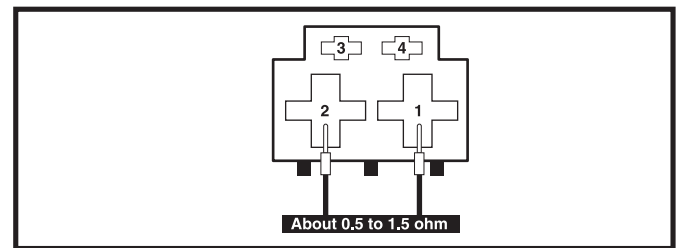
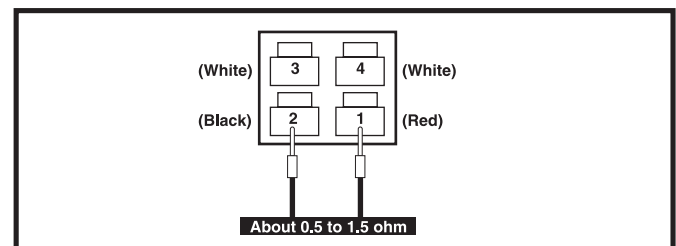
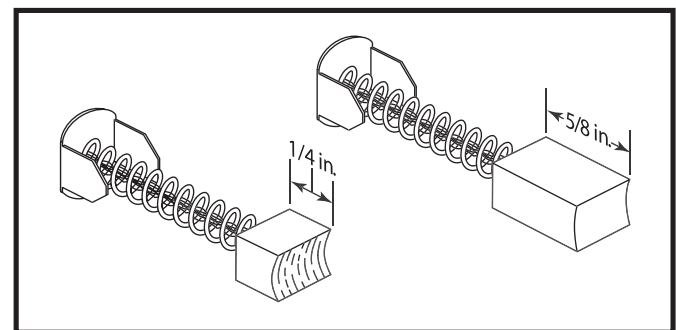

Figure 39. Connector 14b
Figure 40. Connector 9a
Figure 41. Motor Brushes
1. Unplug connector 14b from the power module (4). **See diagram 2.**
2. Measure resistance across pin 1 and pin 2 on connector 14b. **See figure 39.**
- If your multimeter indicates 0.5—1.5 ohms, then replace the power module (4) and retest the system.
4. Measure resistance across pin 1 (red) and pin 2 (black) on connector 9a. **See figure 40.**
- If your multimeter indicates about 0.5—1.5 ohms, then replace the right motor interface harness (14) and retest the system.
- If the brushes are worn below 0.25 in. or they are physically damaged, then replace the brushes and retest the system. **See figure 41.**
- If the brushes are not worn below 0.25 in. or they are not damaged, then replace the right motor (9) and retest the system.